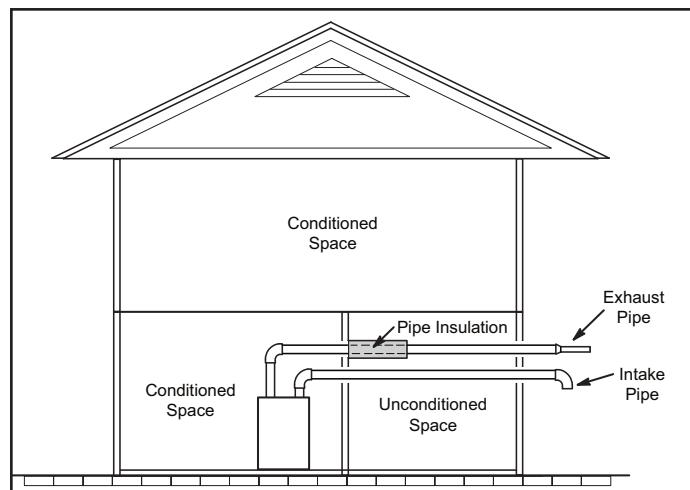

**Figure 32. Equipment in Confined Space (Inlet Air from Ventilated Crawl Space & Outlet Air to Outside)**
2. If intake air is drawn from a ventilated attic (Figure 31) or ventilated crawlspace (Figure 32) the exhaust vent length must not exceed those listed in Table 5B or Table 6C. If 3" diameter pipe is used, reduce to 2" diameter pipe at the termination point to accommodate the debris screen.